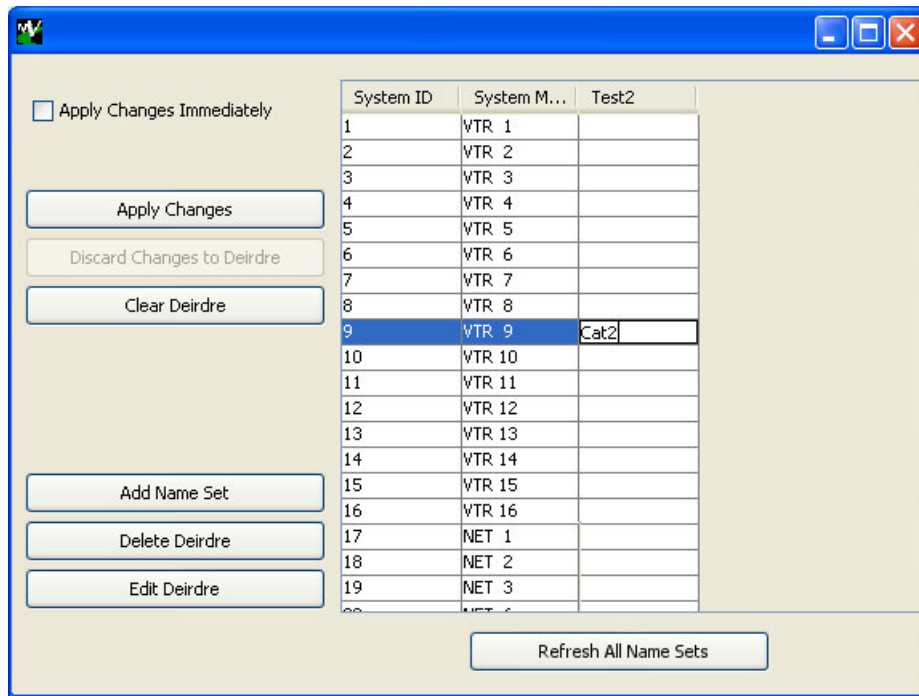

Figure 17-2. Name Sets Window with Added Name Set
- 7 To add an alias to a name set for a device, click on the cell at the intersection of the row listing the device you want to add and the column for that name set. The field becomes active, as shown in Figure 17-2. In the active field, enter a name for that device.